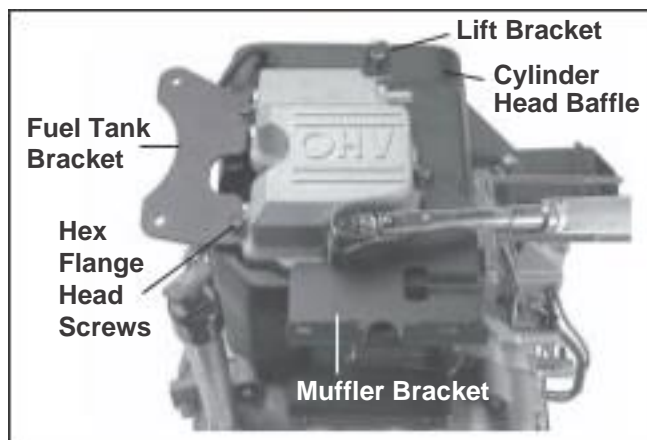

Figure 11-44. Installing Valve Cover. (Die Cast/ Aluminum Cover Shown).
3. Install the valve cover, any attached mounting brackets (muffler, fuel tank, and/or lift*) along with any loose spacers (stamped steel cover) as originally attached onto the cylinder head. Secure with the five hex flange screws. See Figure 11-44.